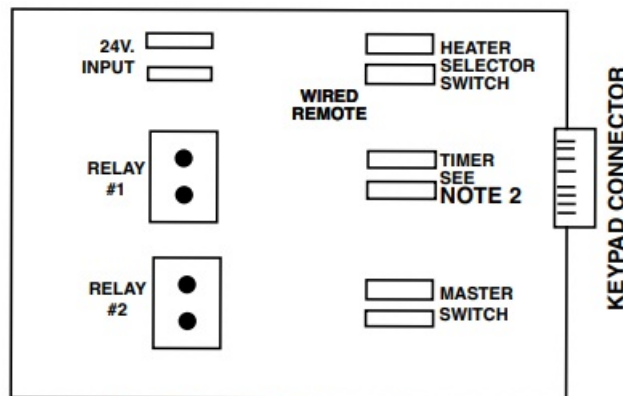

Figure 4 Input/Output Connections
3. Connect 120 or 240-volt filter pump supply to these leads. The double pole relay controlling the filter pump will close, as set by Jumper 2 either in the pool mode or in the spa mode. If the dry contacts of a time clock are connected to the two time clock terminals (See figure 4), the relay contacts will open and close as scheduled, however, its state can be reversed by pushing RELAY 1 button on face of Control.